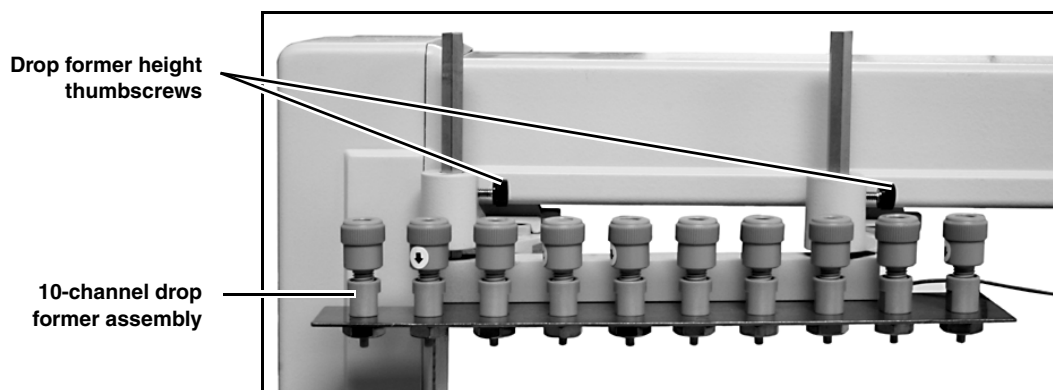

Figure 2-13 Foxy arm
2. Loosen the two thumbscrews and raise the ten-channel drop former assembly to its highest position (Figure 2-13). Retighten the thumbscrews.
4. Loosen the two thumbscrews and lower the ten-channel drop former assembly so that it will clear the collection tubes (Figure 2-13). Retighten the thumbscrews.